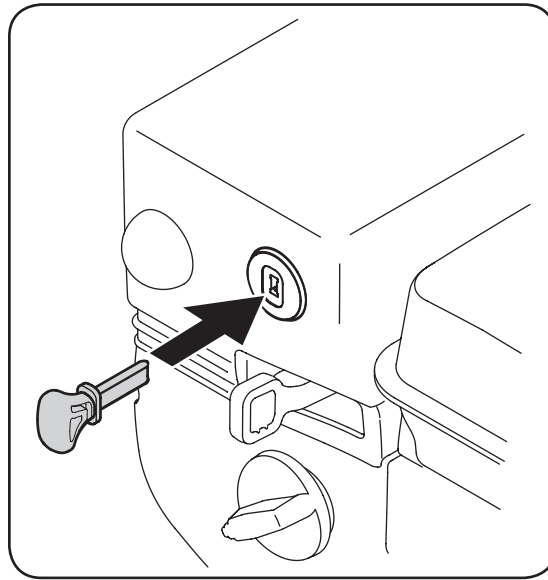

Figure 5-1
1. Insert ignition key into slot. See Figure 5-1.